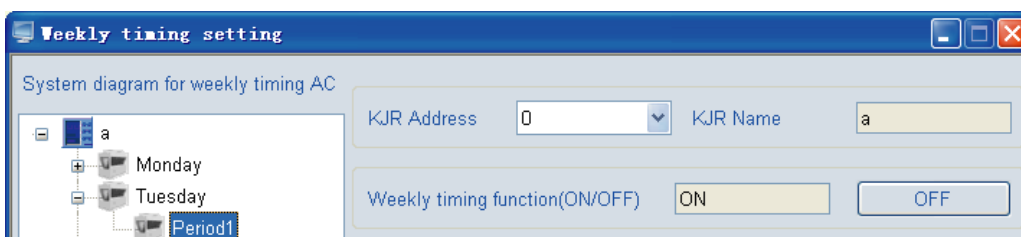
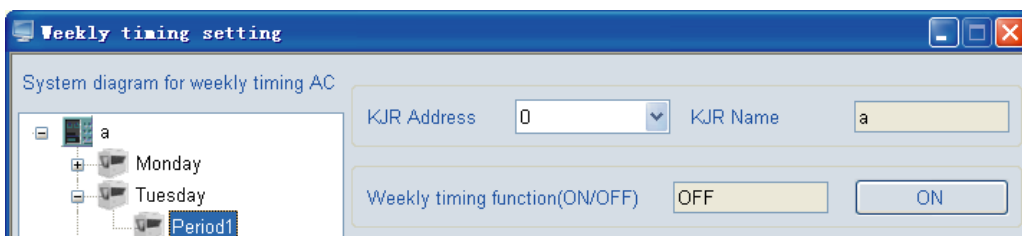
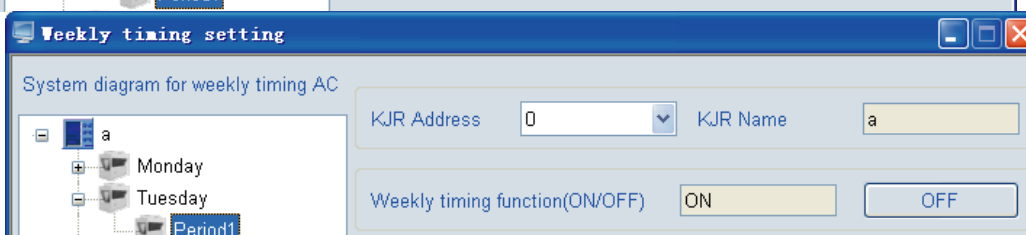

Fig.4-30
Fig.4-31
Fig.4-32
- Timing ON/OFF key for controlling the weekly timing wired controller (See the ① key in the figure) — — when Weekly Timing Function is ON, the key shows OFF (see Fig. 4-30), once click the key, all weekly timing function would be turned off, and then the Weekly Timing Function displays OFF, while the key shows ON (see Fig. 4-31); when Weekly Timing Function is OFF, the key shows ON (see Fig. 4-38), once click the key, all weekly timing function would be turned on, and then the Weekly Timing Function displays ON, while the key shows OFF (see Fig. 4-32)